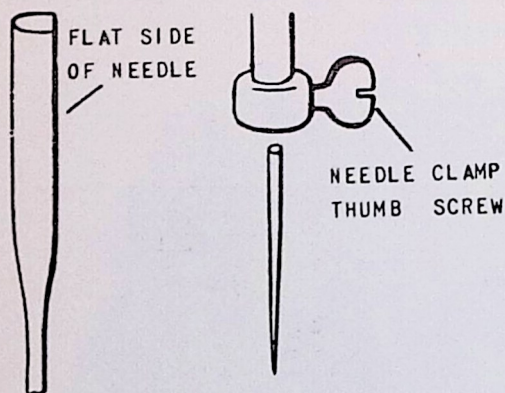

Fig. 8. To Set the Needle
Select a needle to fit the material to be sewn. See Chart on Page 7. To set needle in needle clamp, turn the hand wheel toward you until the take-up lever, (T) Page 2, reaches its highest position. Loosen thumb screw, Fig. 8, located on the needle clamp. **BE SURE THE FLAT SIDE OF SHANK OF THE NEEDLE IS PLACED TOWARD THE RIGHT, OR TOWARD THE INSIDE OF MACHINE.** See Fig. 8. Now insert the needle in the clamp as far as it will go and retighten thumb screw. This machine uses needles classified as AA, J, or 15x1 which can be obtained in various sizes for different size threads and purposes. See Chart on Page 7.